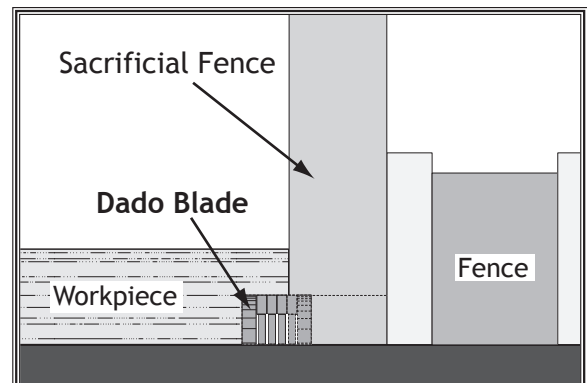

Figure 65. Rabbet cutting with a dado blade
3. Adjust the fence and align the workpiece to perform the cutting operation, as shown in **Figure 65**.